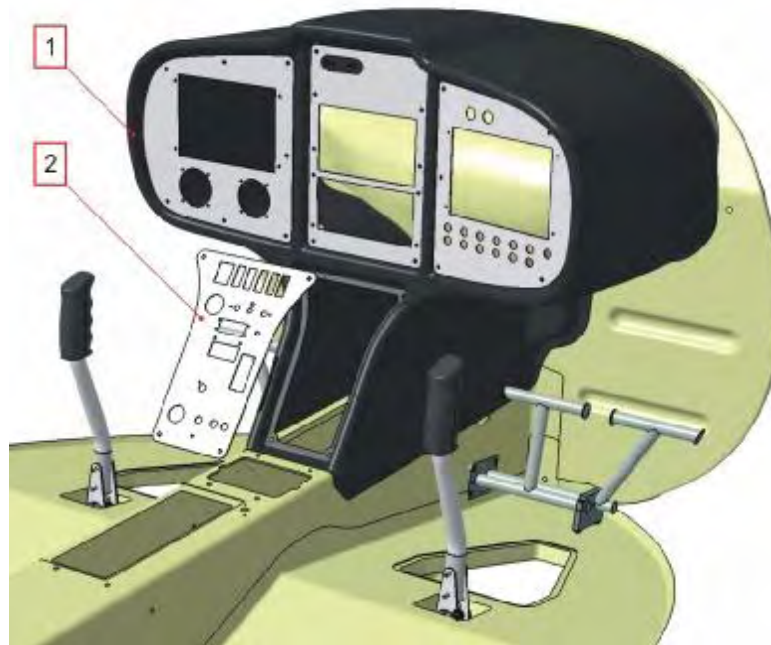

Fig. 4
- 1) Remove the middle panel KB1081300 (2) from the instrument board (1) (Fig. 4).